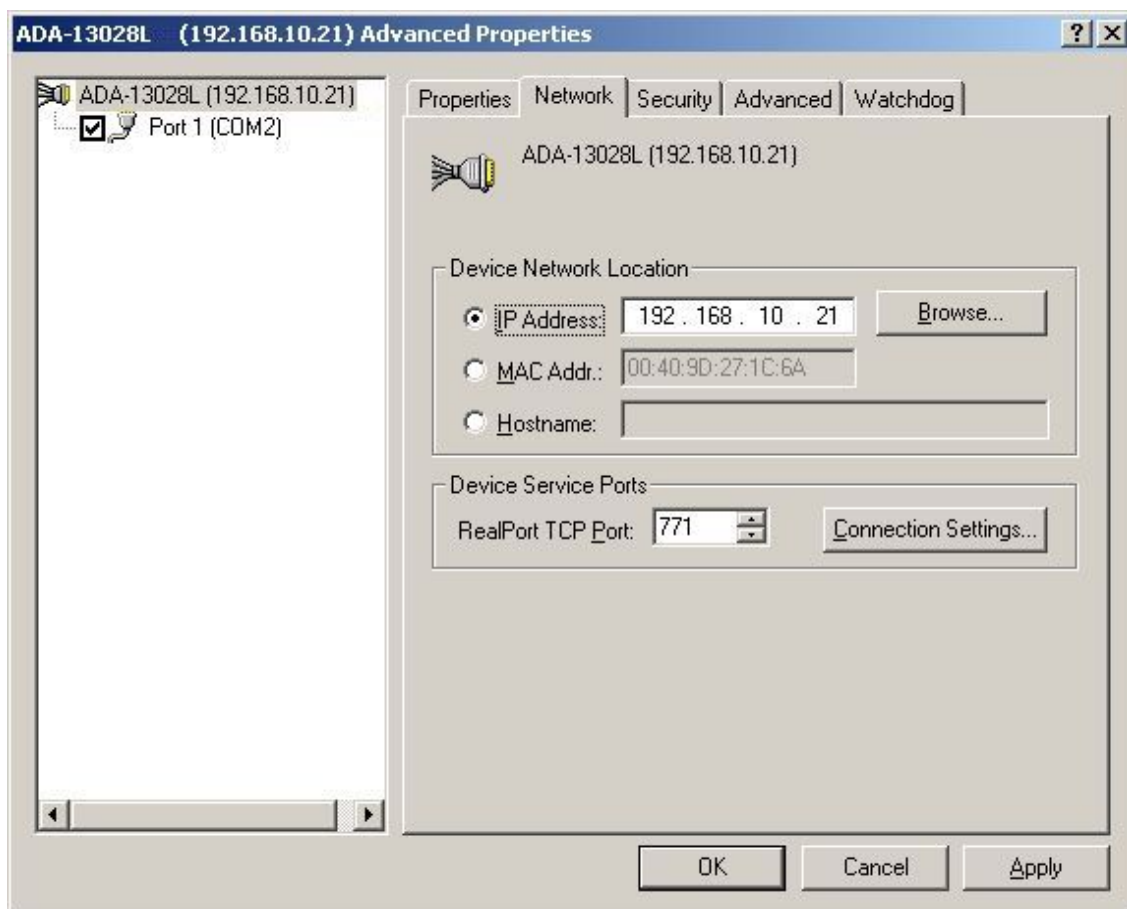

Fig 22. Configuration of multi-port series adapter.
8. **Selections of IP address, MAC, DNS converter for communication with virtual port driver.** In the window **[Advanced Properties]** click **[ADA-13028L]** and then select **[Network]** (Fig. 22), where you can set the **IP address, MAC Address or DNS name of converter**.